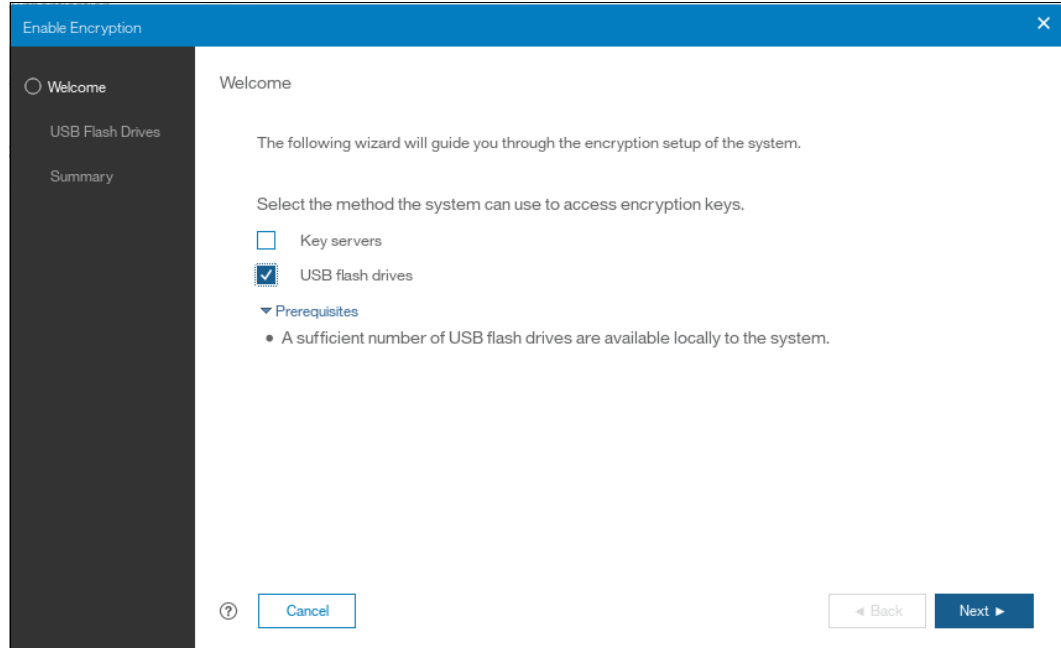

Figure 7-28 Selecting USB flash drives in the Enable Encryption wizard
1. In the Enable Encryption wizard Welcome tab, select **USB flash drives** and click **Next**, as shown in Figure 7-28.